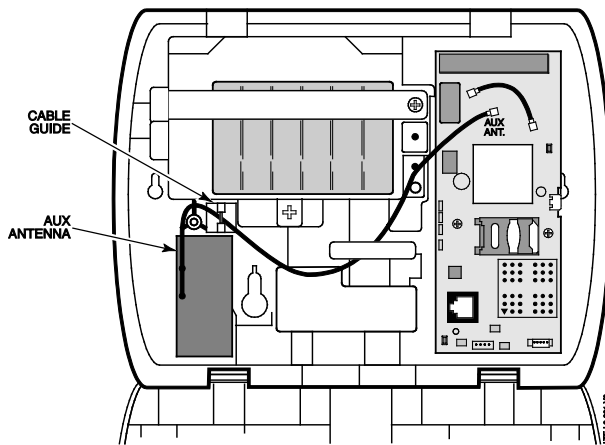

Figure 4 – Auxiliary Antenna Cable Routing (LTE-L3A shown)
6. Connect the provided ECP/power cable between the module and the PC board and route the cable as shown in Figure 4. This cable provides DC power and ground for the module and ECP connections.
For best radio performance, the wires, ECP/power cable, battery and shielded audio cables must be routed as shown in Figure 4.
7. Make the wiring connections and install the control in accordance with the appropriate Installation Instructions. Twist the ECP/power and battery cables and ensure that they are routed through the routing tunnels and/or the strain relief clip as shown in Figure 4.
8. Secure the wiring with the provided tie wraps as shown in Figure 4 to ensure that the cables do not interfere with the antenna.